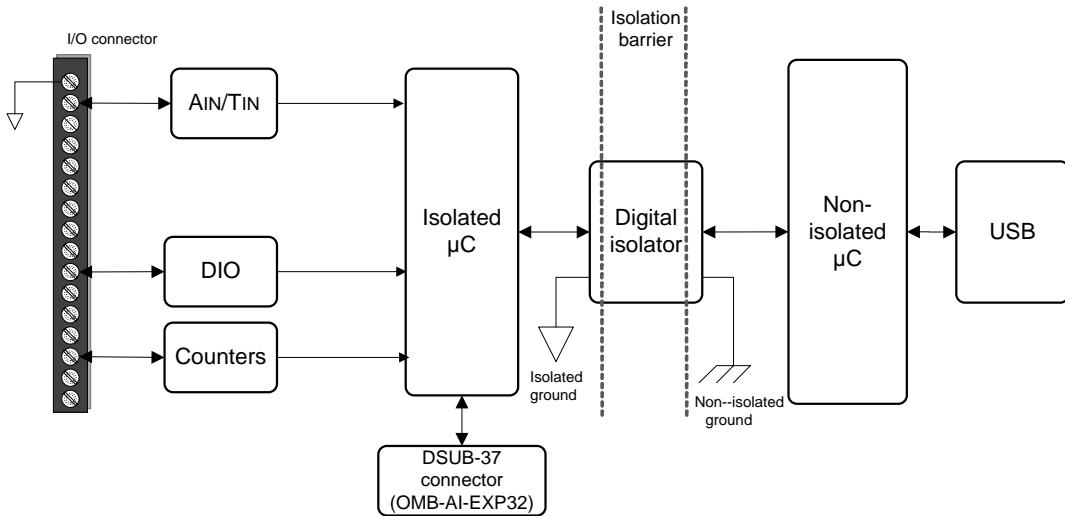

Figure 14. Input isolation diagram
- All analog measurements are made relative to the isolated ground. See Figure 14 for details.